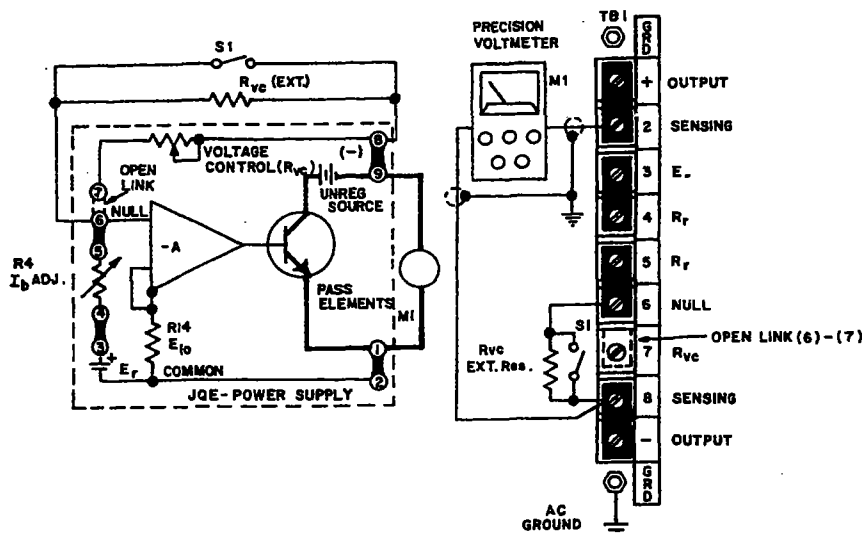

FIG. 3-5 CONNECTIONS FOR PRECISION PROGRAMMING RATIO ADJUSTMENT
- 3-14 Again referring to equation (3), we see that if  $R_{VC} = 0$  (shorted out), the output voltage should be zero. A small negative offset voltage (in the millivolt range) exists however under this condition at the output.
- 3-16 PROCEDURE, PRECISION PROGRAMMING RATIO ADJUSTMENT (Refer to FIG. 3-5).
- b) Connect calibration set-up as shown in FIG. 3-5 and connect the JQE power supply to the a-c power line.